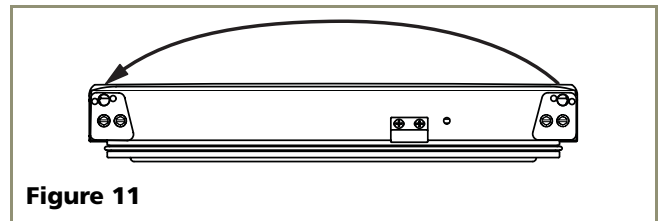

Figure 11
7. With bottom of door facing up, remove pivot plate (2 screws), flip over, and remount on opposite side of door (see **Figure 11**). Be sure angled side of plate faces center.